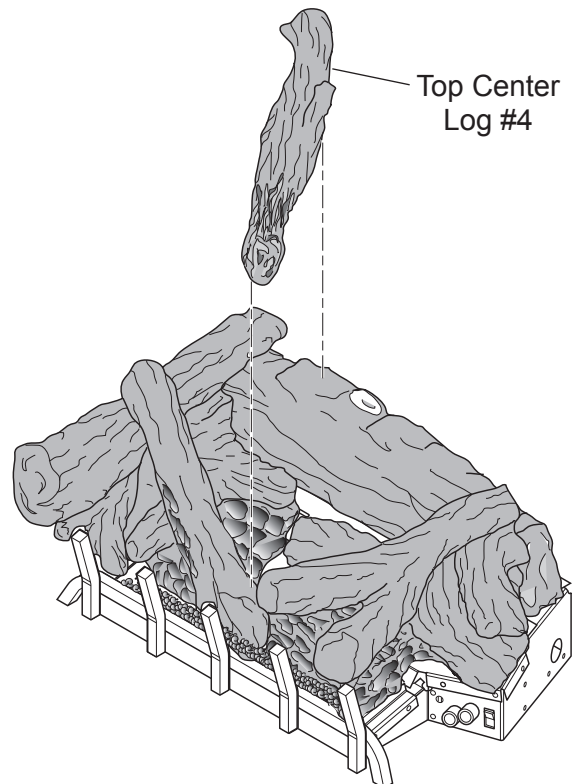

Figure 29 - Installing Top Center Log (#4)
4. Rest end of top center log (#4) on rear log. Place front end of top center log where right and left cluster logs meet. *See Figure 29.*